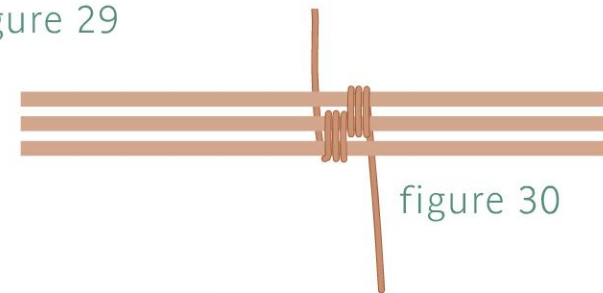

figure 30
- 4 Hold the third piece of 16-gauge wire parallel to the two frame wires. Coil the weaving wire around the second and third frame wires three times. On the third coil, bring the weaving wire behind all three frame wires (Figure 30).